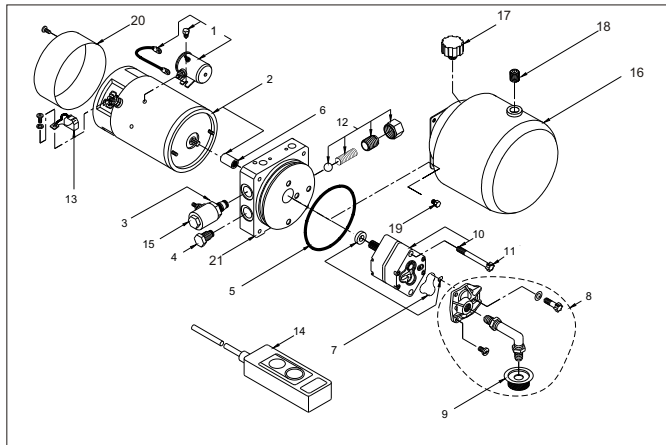
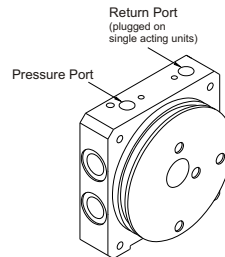

Fig 1.1 Power pack exploded view
Fig 2.1 Service ports
Fig 1.1 shows a basic **single acting** power pack which has a solenoid lower valve (item 3) to lower the load under gravity.
The **remote valve** version looks similar to the unit in Fig 1.1 however it does not have a solenoid lowering valve (item 3). The remote valve unit also utilises the return port (see Fig 2.1).